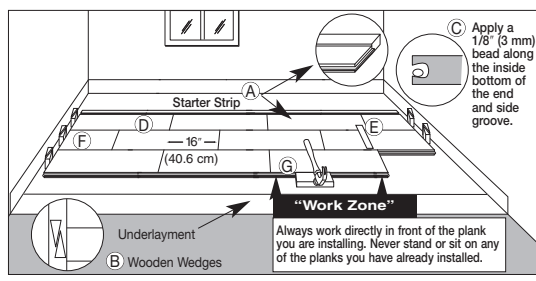

Figure 14
- Select the first board. All installations should begin with the groove side against the wall using the longest boards available. Apply a continuous 1/8" (3 mm) glue bead to the inside bottom of the groove on the end of the board. Do not apply glue to the groove side at this time (Item C, Figure 14). Products with the end tongue on the left should be installed right to left, opposite tongues should be left to right (Item D, Figure 14). If a sacrificial board was used DO NOT glue the first row to it.
- Complete the first row. Cut the last board allowing for 1/2" (13 mm) clearance between the wall and the floor. (Use the remaining end of the cut board as a starter board for any row following row three). Install a wedge on the end of the board between the hardwood flooring and the wall, allowing 1/2" (13 mm) expansion space. Avoid installation of any boards shorter than 16" (40.6 cm) in the first four rows (Item F, Figure 14).
- Use a pull bar to pull the last board into place from the opposite end. Install wedges into the gap and tighten (Item B, Figure 14).
- Cut or use a shorter board for the first board of the second row. Start the second row by applying a 1/8" (3 mm) bead along the inside bottom of the end and side groove of the new board. Install the first board of row two. Apply a bead of glue to the inside bottom of the end and side groove of the next board and install. When installing boards together, use a tapping block against the tongue, not the groove (Item G, Figure 14). Tap the boards into place by tapping with a hammer on the tapping block. DO NOT tap on the edge directly with the hammer. Complete the second through fourth rows using this technique. Insert wedges on the ends, as necessary, to restrain the movement of the floor.